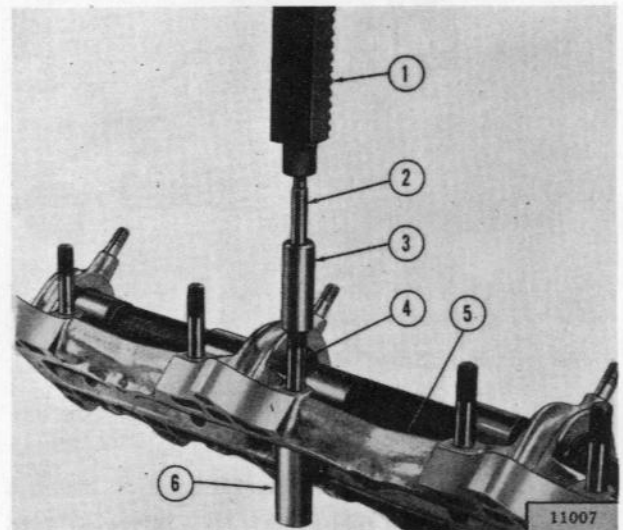

FIG. 105—REMOVING ROCKER ARM STUD FROM BEARING DECK WITH TOOL W-266
**a.** Position the cam bearing support deck on the bed of an arbor press and position the support of the rocker arm stud remover and installer tool W-266 under the defective rocker arm stud as shown in Fig. 105.